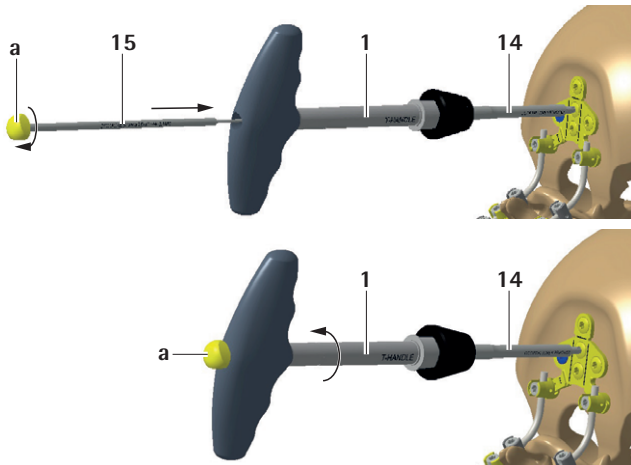

Fig. 17
- ▶ Insert the screw remover 14 axially on the occipital screw, as shown at the top of the image, see Fig. 17.
- ▶ Insert the removal shaft 15 (SZ113R) through the T-handle 1 and turn the golden knob a clockwise until it is fixed, as shown at the top of the image, see Fig. 17. As soon as it is fixed, don't apply any additional torque.
- ▶ Turn the T-handle 1 counter-clockwise to remove the screw, as shown at the bottom of the image, see Fig. 17.